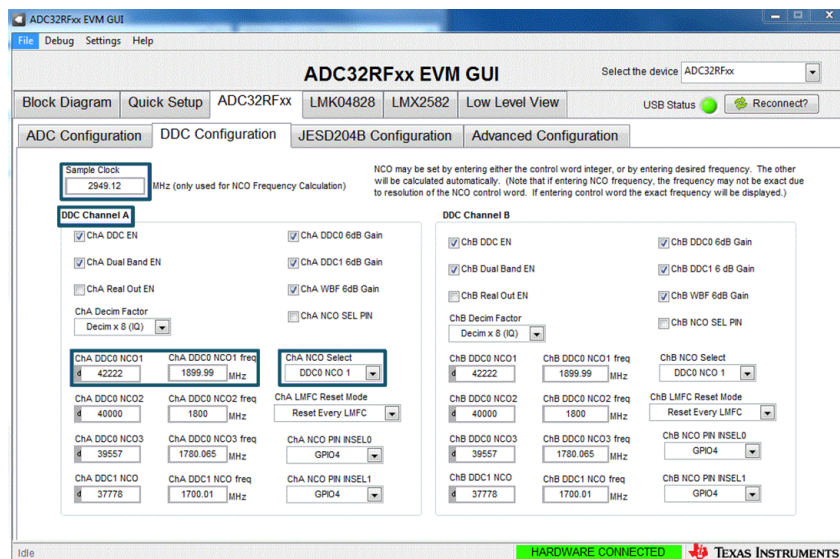

Figure 21. ADC32RFxx-EVM GUI DDC Configuration Tab
- Enter "1900" in the box for the *Channel A DDC0 NCO1* frequency. The control value for NCO1 should become 42222 as shown in Figure 21